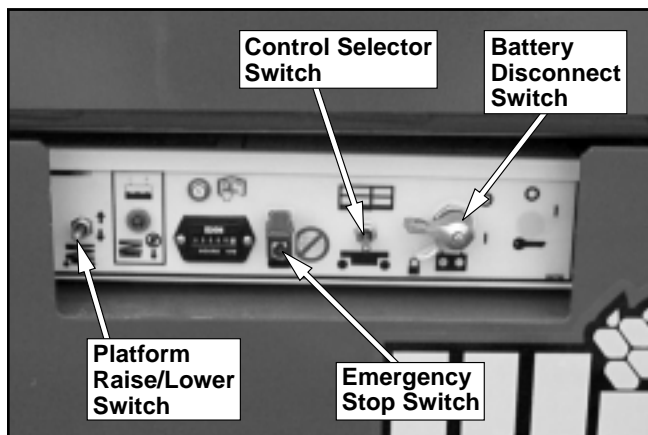

Figure 9.1—Lower Controls
2. From the lower controls, place the battery disconnect switch in the on position (refer to Figure 9.1).
The lower controls (refer to Figure 9.1) are located on the right side of the chassis. The following are located at the lower control station.